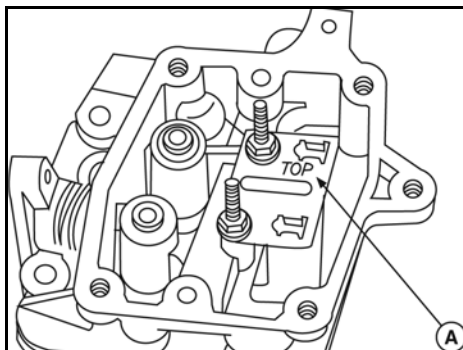

Figure 23
1. Install new plastic push rod guides (A, Figure 23) into the cylinder head plate.